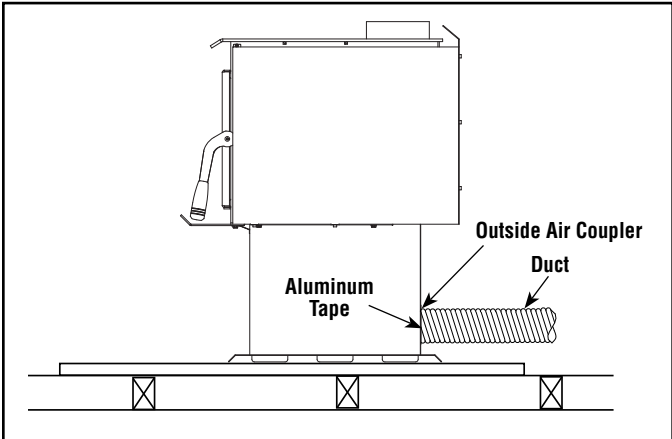
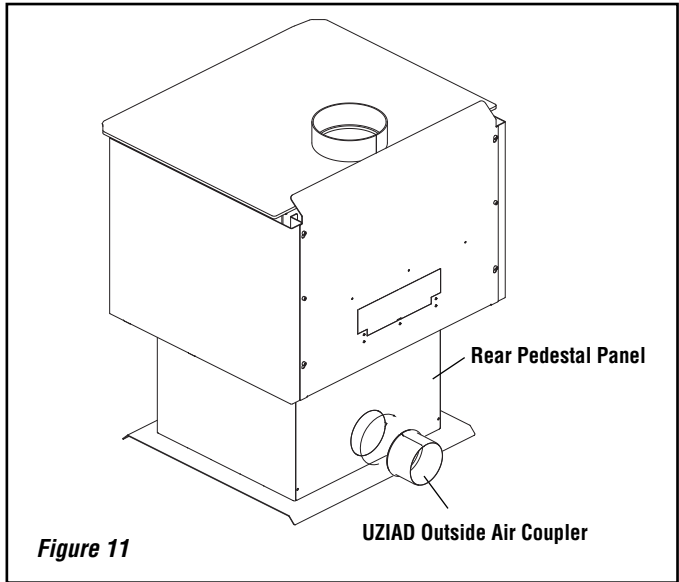

Figure 12B - Outside Air Connection, Through the Wall
Figure 11
1. **Install rear pedestal panel as shown in Figure 11.**
2. **Install Outside Air Coupler** - Line up the "V" notch in the coupler with the "V" notch in the opening on the back of the pedestal (see Figure 11). Push and twist so the rolled edge catches and continue turning a full 360° to lock the coupler in place.
3. **Install Ducting and Air Register (refer to Figures 11 through 13)** - The outside air assembly may be installed according to the following requirements:
- b) The air intake register must not be installed more than ten (10) feet (3050 mm) above the base of the stove.
- Make a 4-1/4" (110 mm) hole in the outside wall of the house at the chosen location. From outside, place the outside air register in the hole (open side down) and fasten the register to the wall, with screws as shown (see Figures 12B and 13).
- Install the coupler onto the existing collar on stove (see Figure 11).